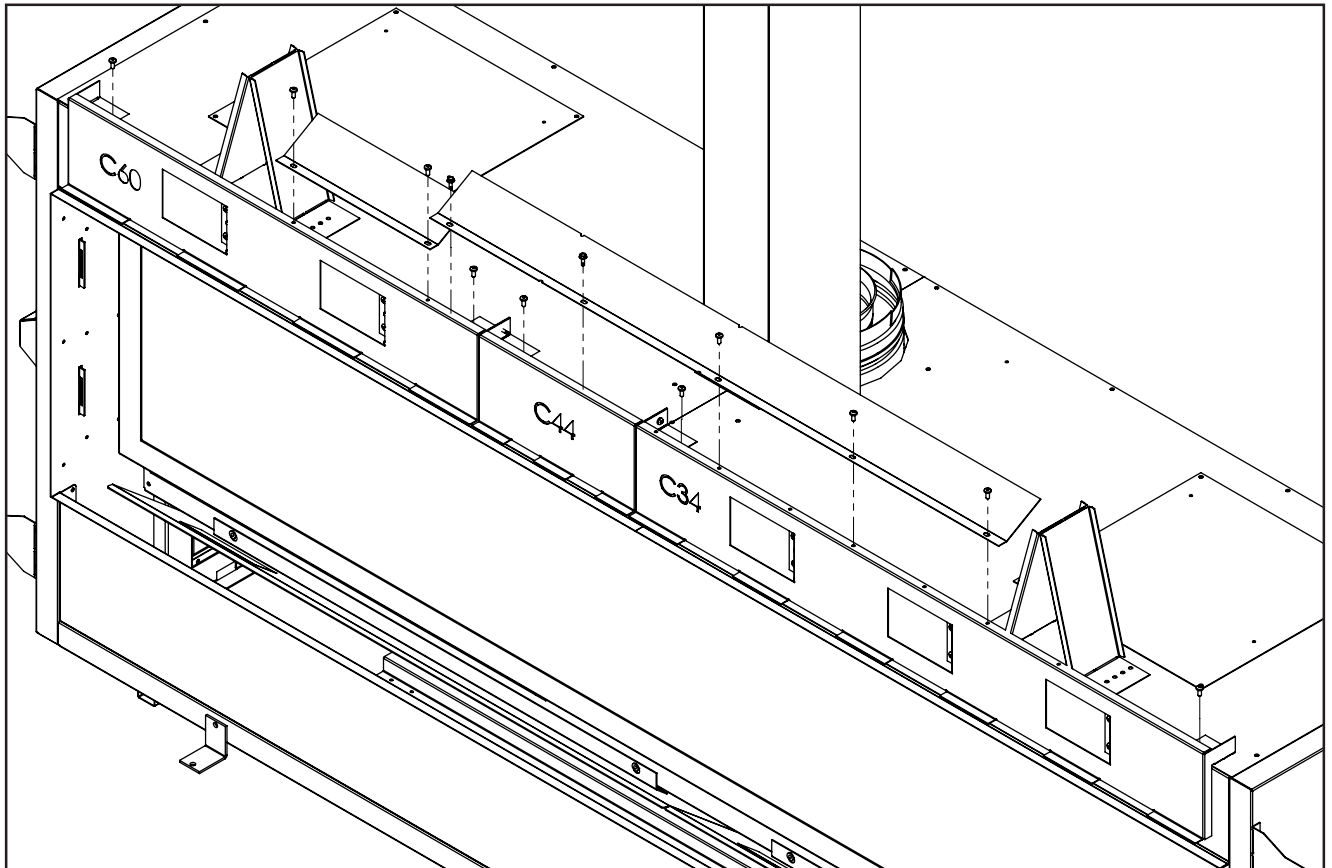

Figure 20. Combustible Facing Kit C72
Step 7: Attach your deflector to your panel configuration as shown below. Attach the extension deflector if installing a C72, shown in Figure 20.